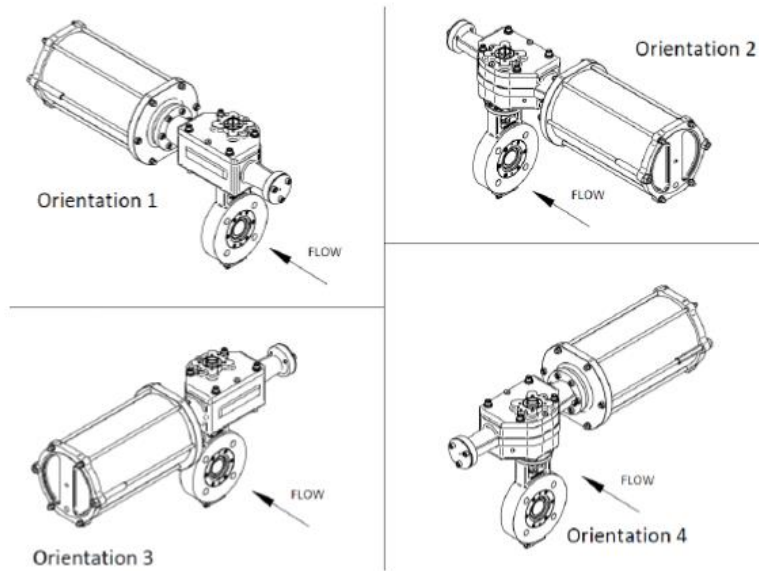

Figure 3: Possible Orientations
Refer figure 3 & 4 for mounting details and orientation.
11. Required orientations can be attained. Refer figure 3 & 4. Thus, the above can be incorporated for reversing the fail action of the valves.